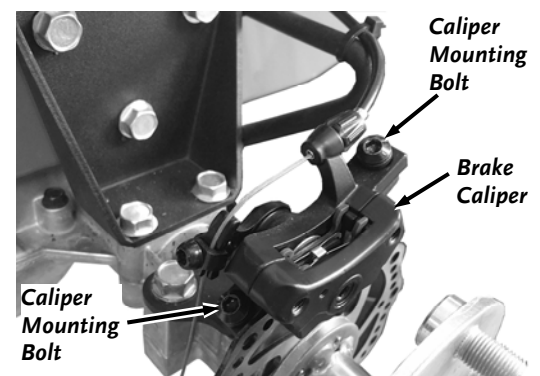

Figure 48
2. Using the 5.5mm Allen Wrench, loosen the Caliper Mounting Bolts 1 turn (**Figure 48**).